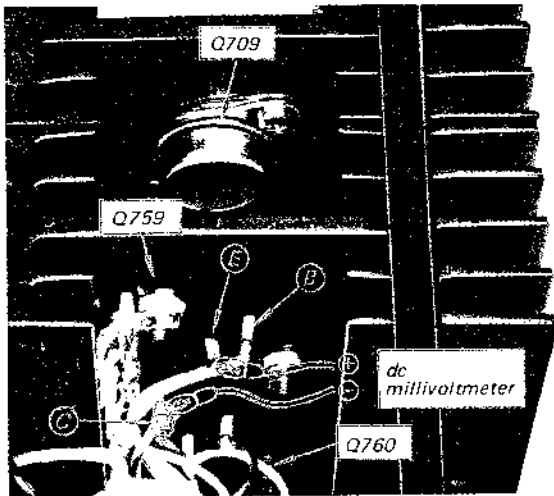

Fig. 3-17. Dc millivoltmeter connection
Q710 (Q760) as shown in Fig. 3-17 and 3-18. Check to see that the reading does not exceed 50 mV. If it does, turn off the power immediately, then check and repair the trouble in the power amplifier board.
2. Connect the dc millivoltmeter across emitter of Q709 (Q759) and collector of Q710 (Q760) as shown in Fig. 3-17 and 3-18.